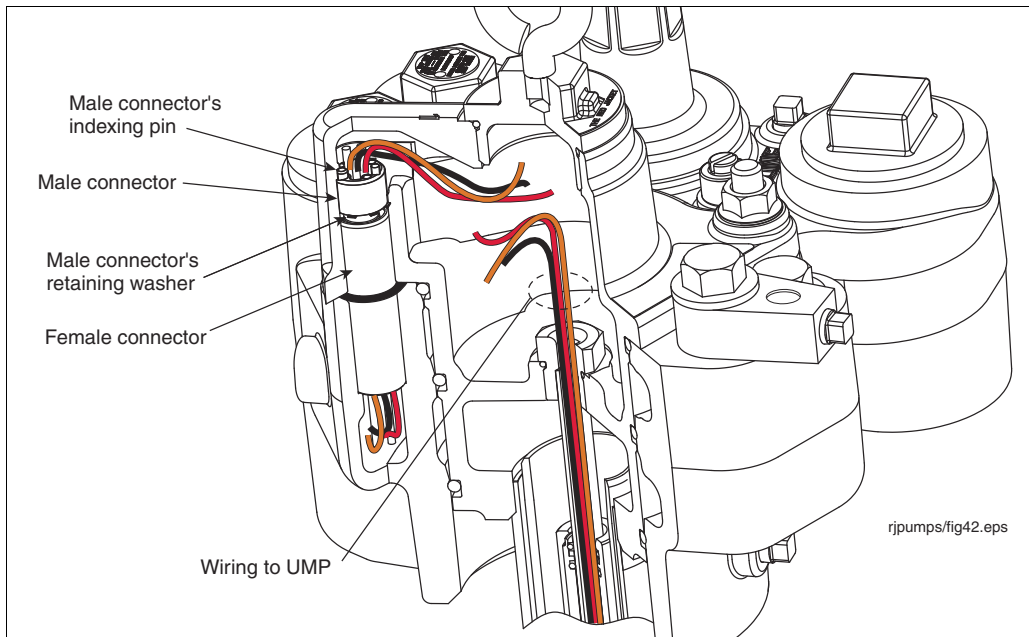

Figure 46. Packer-To-Manifold Wiring Connectors
5. Locate the male connector inside the packer (see Figure 46).
22. Remove the manifold's female connector's o-ring. Get the 0.862" ID x 0.103" wide o-ring from the connector kit and lubricate it with petroleum jelly. Insert this o-ring in its groove in the manifold around the female connector (see Figure 46 on page 57).